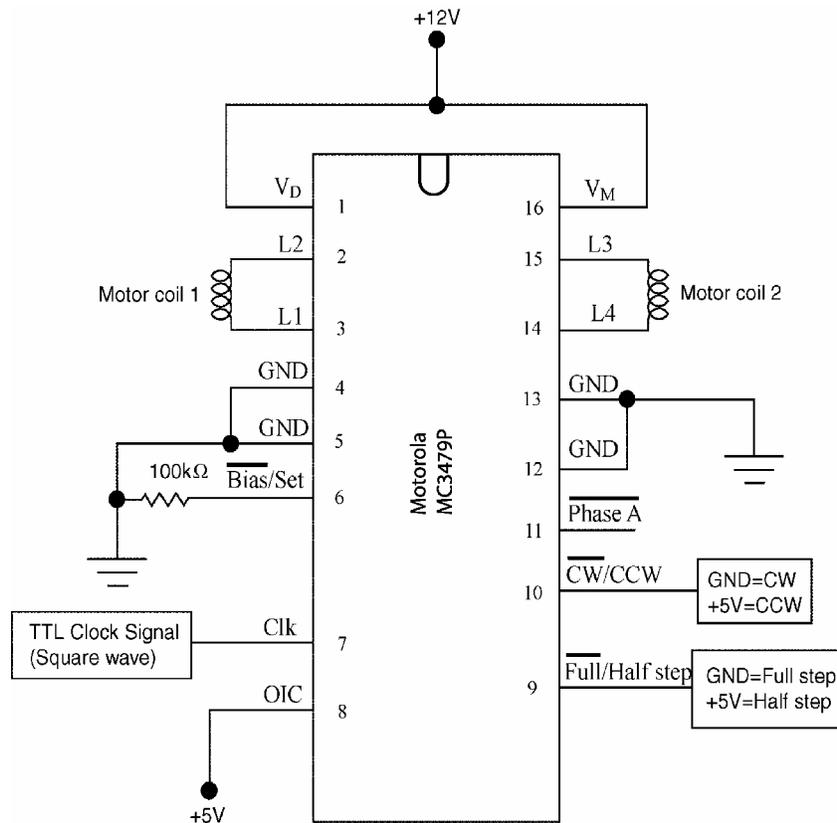

Figure 3: Pin out schematic for the driver chip.
1. Build the stepper motor control circuit shown in Figure 3 making sure that you can easily change the voltage on pins nine and ten.